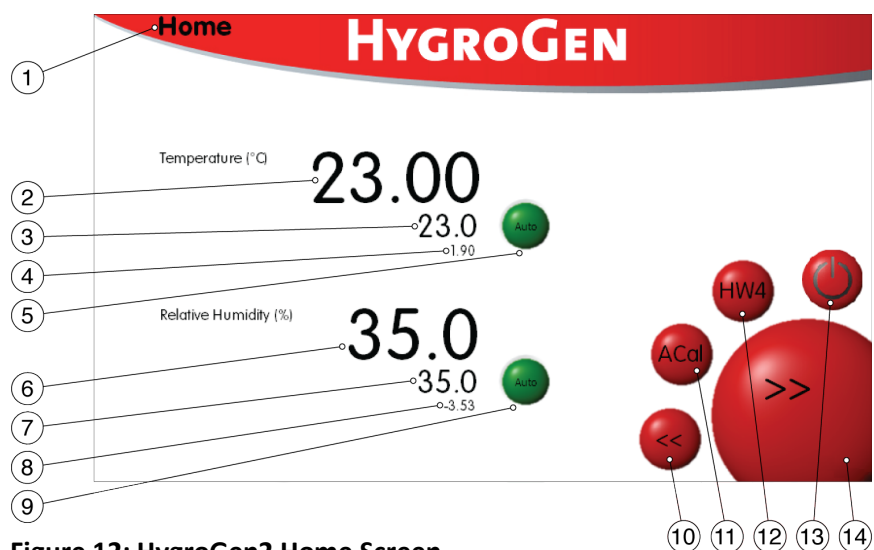

Figure 12: HygroGen2 Home Screen
The HygroGen2 programmer function enables the user to automate a sequence of RH and/or temperature set-points. If the AutoCal function is enabled the Programmer function is only available via the Home menu (Figure 12: item 1).